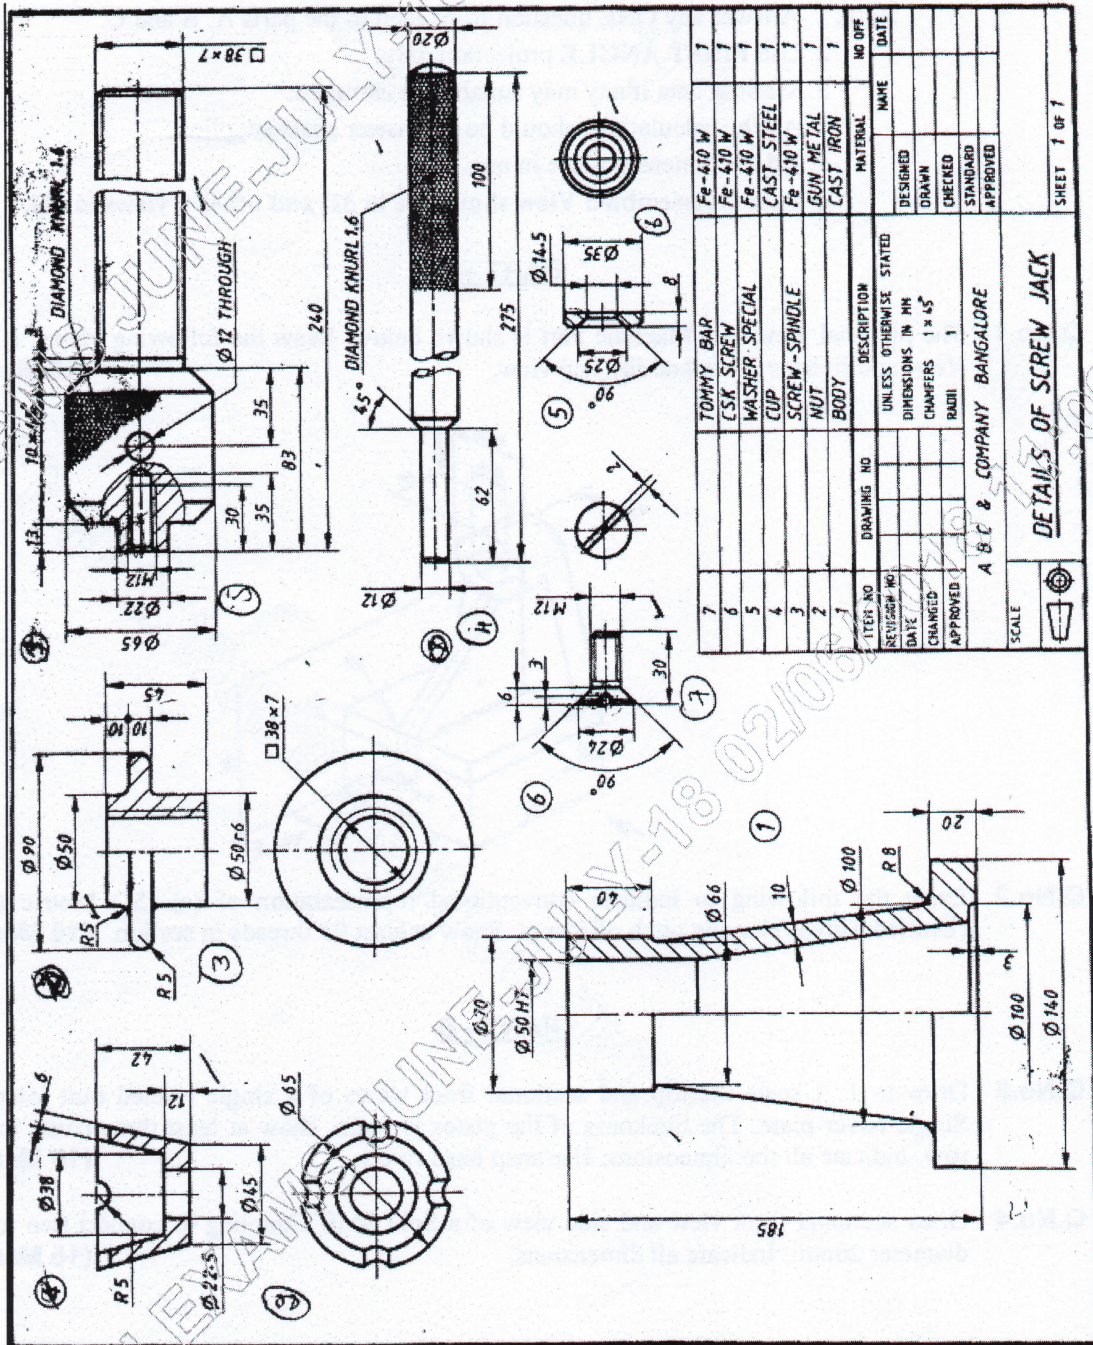

Figure 1. "SCREW JACK"
Q.No.5 Figure 1. Shows the details of "SCREW JACK" Assemble the parts and draw the following views: